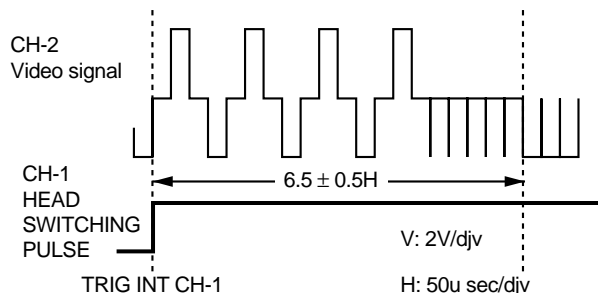

Figure 5-2.
5. Check that V-Sync is  $6.5 \pm 0.5H$  and the waveform is as shown in Figure 5-2.